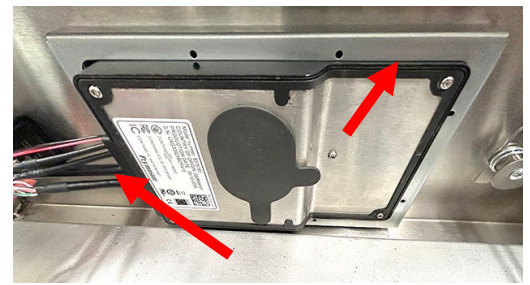

Figure 16
18. Rotate the bracket and controller so that they sandwich the cabinet frame between them as shown, with the wire harnesses positioned as shown (see Figure 16).